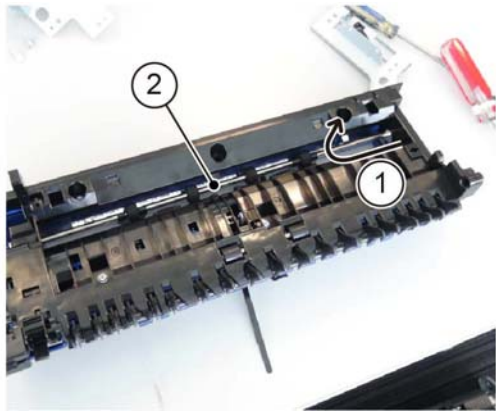

Figure 8 Exit 2 roll removal
14. Remove the exit 2 roll, Figure 8:
- a. Move, then release the exit roll in the direction of the arrow (1).
- b. Remove the exit roll (2).